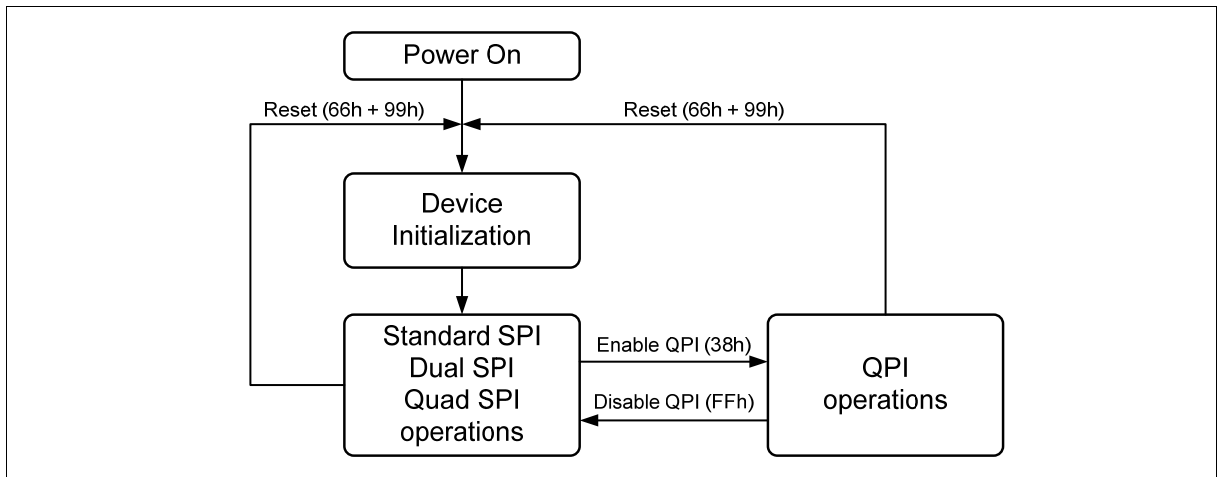

Figure 2 FM25W04 Serial Flash Memory Operation Diagram
The FM25W04 supports Quad Peripheral Interface (QPI) operations only when the device is switched from Standard/Dual/Quad SPI mode to QPI mode using the “Enable QPI (38h)” instruction. The typical SPI protocol requires that the byte-long instruction code being shifted into the device only via DI pin in eight serial clocks. The QPI mode utilizes all four DQ pins to input the instruction code, thus only two serial clocks are required. This can significantly reduce the SPI instruction overhead and improve system performance in an XIP environment. Standard/Dual/Quad SPI mode and QPI mode are exclusive. Only one mode can be active at any given time. “Enable QPI (38h)” and “Disable QPI (FFh)” instructions are used to switch between these two modes. Upon power-up or after a software reset using “Reset (99h)” instruction, the default state of the device is Standard/Dual/Quad SPI mode. To enable QPI mode, the non-volatile Quad Enable bit (QE) in Status Register-2 is required to be set. When using QPI instructions, the DI and DO pins become bidirectional DQ₀ and DQ₁, and the WP# and HOLD# pins become DQ₂ and DQ₃ respectively. See Figure 2 for the device operation modes.